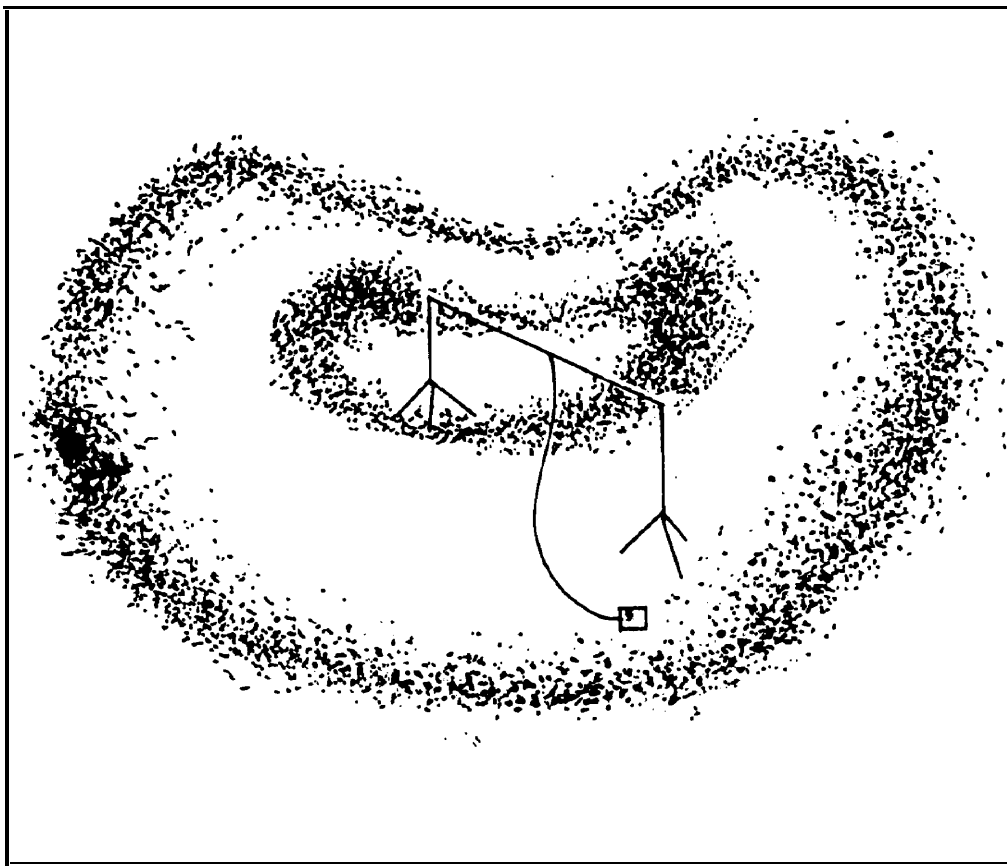

Figure D-7. Bidirectional antenna pattern.
(2) *Bidirectional*. A bidirectional antenna has two main lobes of radio energy opposite each other with a null between the lobes (Figure D-7). These antennas produce a stronger signal in the two opposing directions while reducing the signal in other directions. The tactical bidirectional antennas most commonly used are sloping wires, random length wires, and half-wave dipoles. Bidirectional antennas are usually used on point-to-point circuits and in situations where the antenna null can be positioned to reduce or block out interfering signals when receiving. Although bidirectional antennas are more difficult to find direction (ground-wave), they can be used when several antennas are closely located. Placement of other antennas in the null of bidirectional antennas reduces interference and interaction between the antennas. A drawback of bidirectional antennas is that they have to be correctly oriented to radiate in the desired directions. However, lowering the antenna to create the NVIS effect increases the radiation pattern allowing less accuracy in orientation of the antenna.